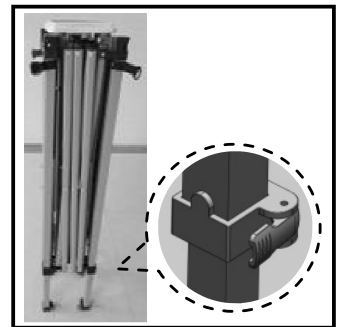

Fig. 2
- e) Push inward on one of the levers located inside of the frame legs, and pull out the extension from the top portion of the leg to the 1st level. Repeat for the remaining legs. (see Fig. 2)
- 2. Extend the leg to the desired height (second or third hole from the bottom of the leg) push inward on the lever located inside of a leg, and release to insert the safety pin into the selected hole. Repeat to adjust each remaining leg. (see Fig. 2)